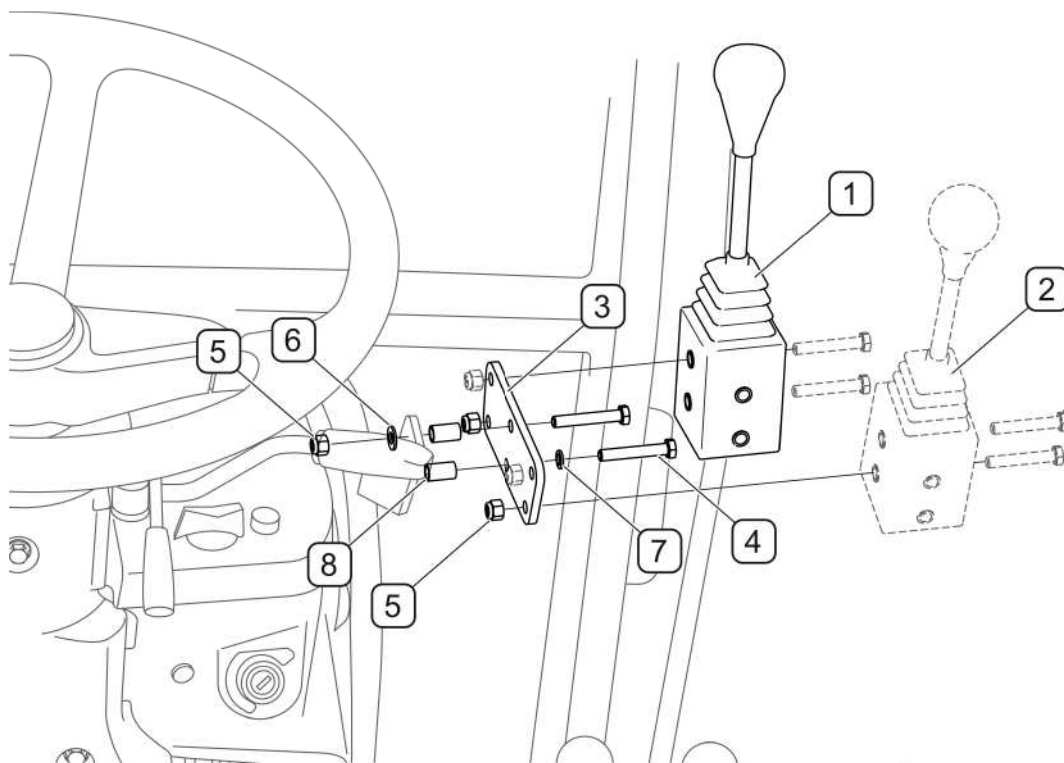

FIG. 4.15A Installation of the control lever in the KIOTI DK451C and DK551C tractors
(1) - loader control lever, (2) - external hydraulics control lever (existing in the tractor), (3) - lever bracket, (4) - bolt M8x50, (5) - nut M8; (6) - washer 8-100HV, (7) - spring washer Z8, (8) - spacer bushing;
Installation of the loader control lever in KIOTI DK451C and DK551C tractors (FIG. 4.15A) consists of removing the existing external hydraulic control lever (2) (if the tractor is equipped with the lever) and using in its place the bracket (3) to which is mounted the lever (2) and loader control lever (1). Use the existing fasteners to install the lever on the mounting bracket.